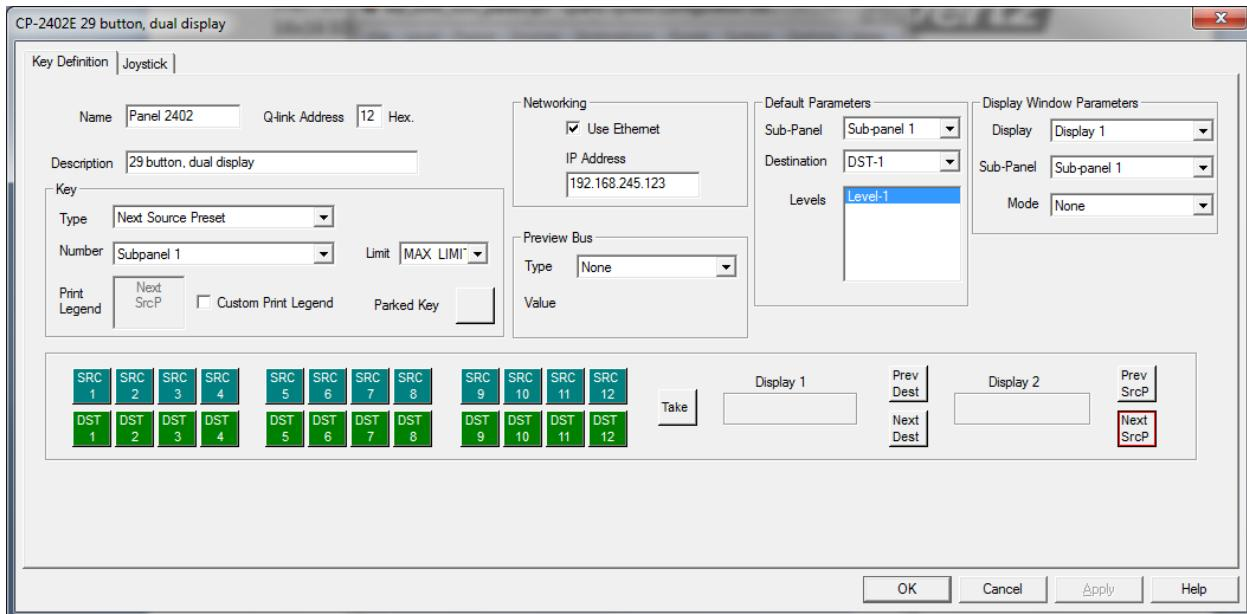

Figure 6-5 : WinSetup Panel Configuration
5. **Panels:** Enter the panel's dialog and use the **New** button; this will show all Evertz panels listed by part number. Select the part number that matches the part number on the panel's serial number label. Ignore the A/E designation as the connection method for the panel that will be defined in the panel configuration dialog. Once a part number is selected, a new dialog box will appear displaying a graphic of the panel. Figure 6-5 shows the button display for the CP-2402E control panel.